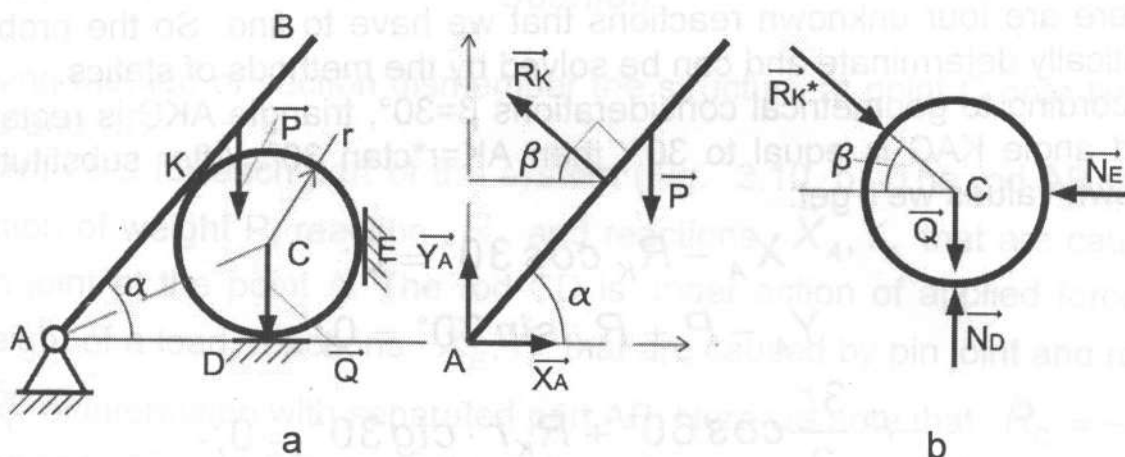

Fig. 3.9
Homogeneous rod AB with weight P is fixed with pin at point A and leans on a cylinder C with radius r and weight Q=2P (Fig. 3.9, a). The cylinder is located on a horizontal floor and contacts with vertical wall. It is known that AB=3r,  $\alpha = 60^\circ$ . Determine pressure forces of the bar on the pin A and the cylinder on the horizontal surface if all the surfaces are smooth.
2. Form FBD for each part of the system (Fig. 3.9, b). The rod AB is under action of weight P, reactions  $\vec{X}_A, \vec{Y}_A$  that are caused by pinned joint and reaction  $\vec{R}_K$  ( $\vec{R}_K$  is perpendicular to AB) that is caused by cylinder pressure at point K. The cylinder C is under action of weight Q, reactions  $\vec{N}_D, \vec{N}_E$  that are caused by horizontal and vertical surfaces and reaction  $\vec{R}'_K$  of interaction with separated part AB. Here we note that  $\vec{R}_K = -\vec{R}'_K$ .